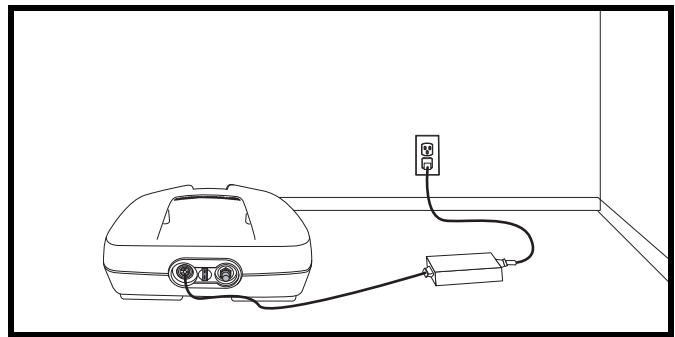

Figure 11. Charging The Batteries (Battery Pack Removed)
1. Position your Travel Scooter or battery pack close to a standard electrical outlet. See figure 11.